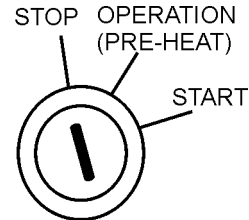

Figure 52. Ignition Switch (Emergency)
2. Turn the ignition key (Figure 52) to the **STOP** position.